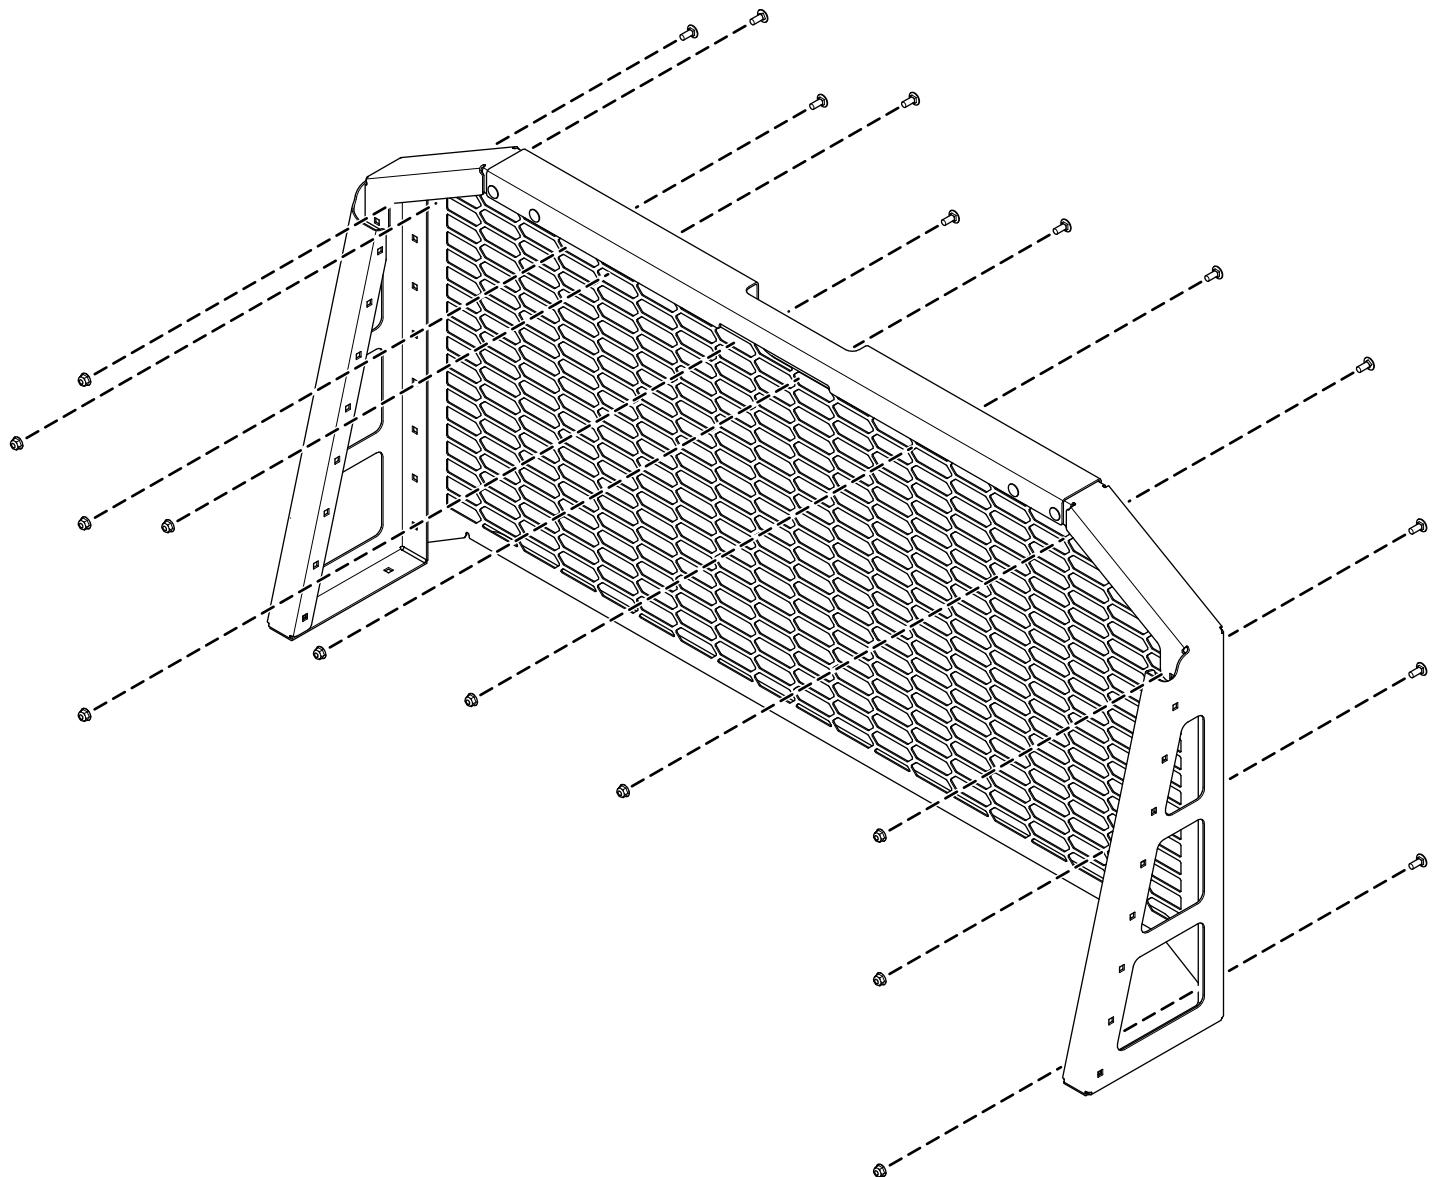

Figure 2
2. Loosely secure the screen to the rack framing using 11 carriage bolts (5/16 x 3/4 inch) and 11 locknuts (5/16 inch) as shown in Figure 2.